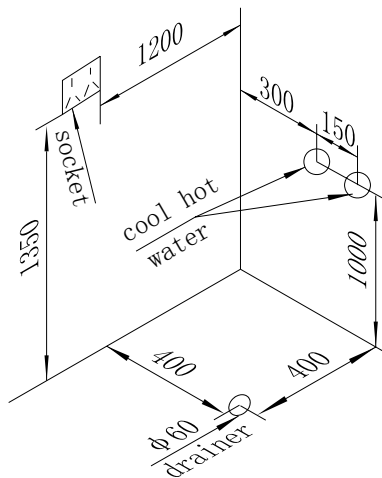

Fig. 1
1. Install inlet tubes for cool and hot water, and install the drain pipe, three-hole outlets etc at scheduled place. Fig. 1.
8. Install top shower, hand shower, foot massage and handle. Join the cold and the hot water pipes and the wire connector; connect the steam pot to the outlet. (See the waterway sketch and fig.1)